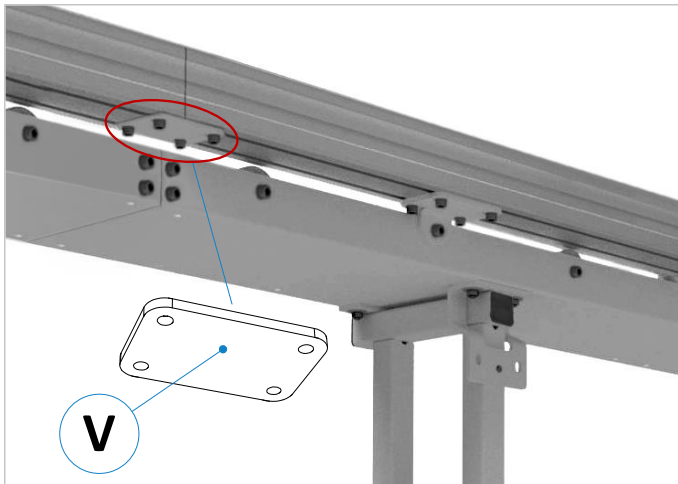

Figure 6: Connecting guide profile segments together
5. Align the second profile segment exactly in line with the first one (see ⇒ Figure 6).